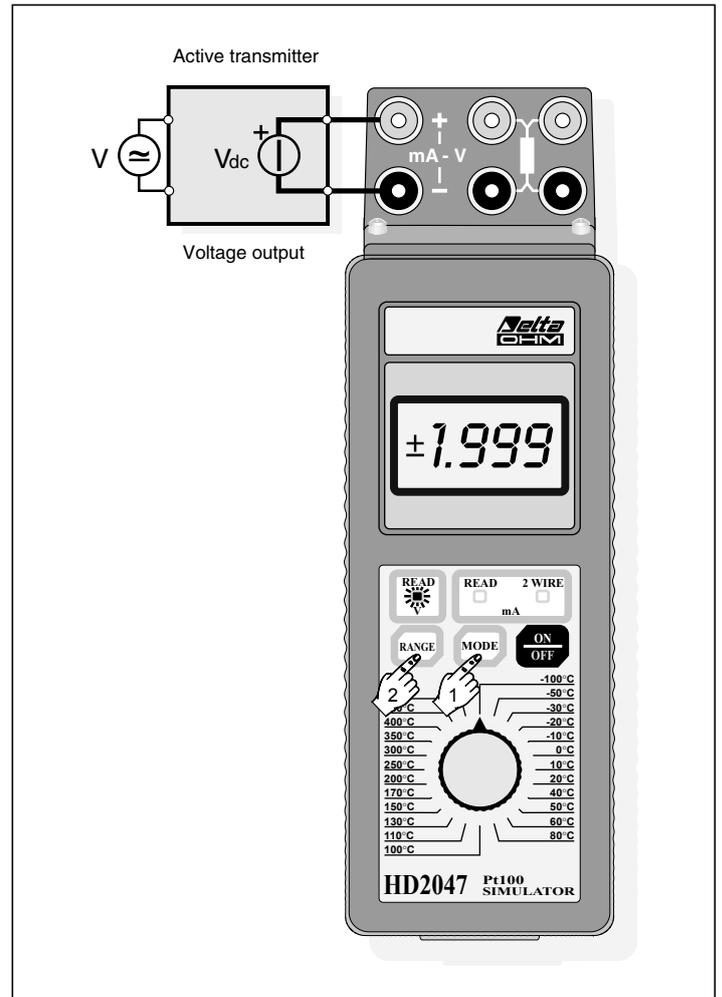

Fig. 1 Continuous voltage measurement
Operating mode (see fig.1):
- connect the wires to the sockets, as shown in fig.1;